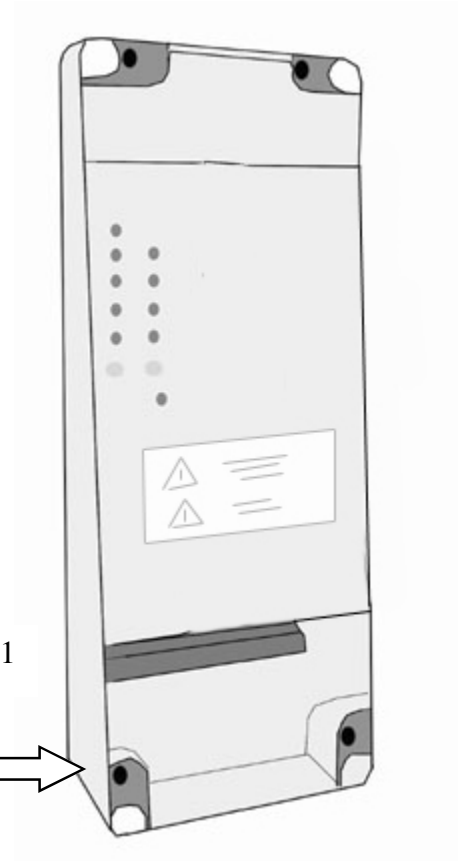

Fig 1
1. Plug the battery into the control board (fig 1). For r
2. Level your box and mark your mounting holes. The holes are located in four corners of the control box (fig 1).